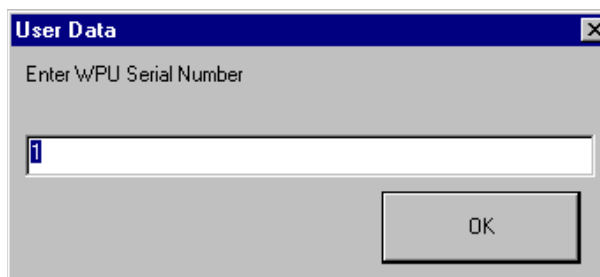

FIGURE 46. Typical Serial Number Dialog
8.80 Touch the 'WPU Serial Number' field. Using the keyboard attached to the NM6000, type the serial number (previously recorded from Step 8.5) into the 'User Data' dialog. See Figure 46.